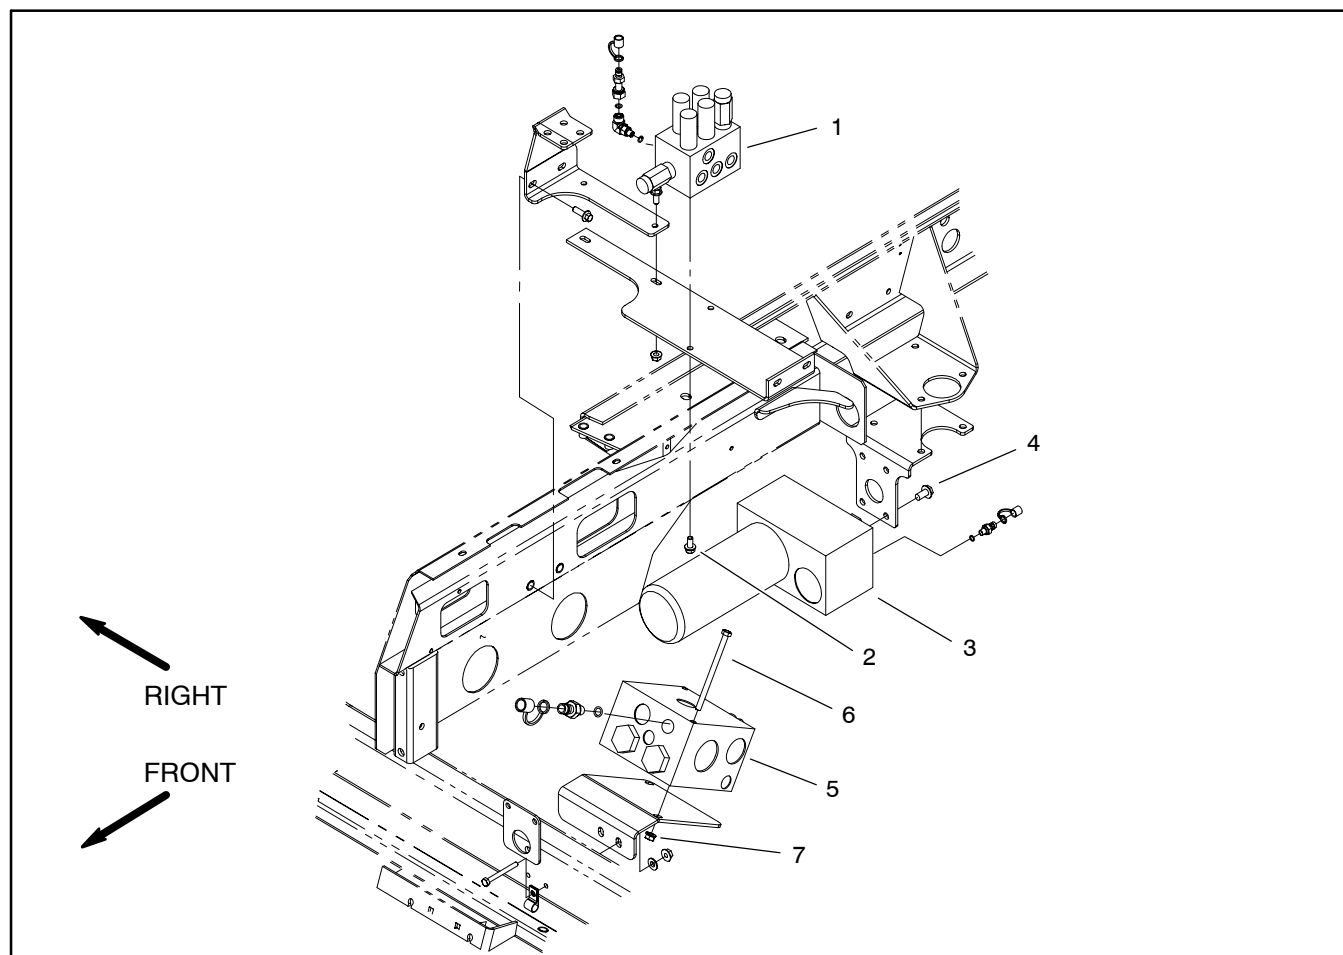

Figure 64
4. Remove hydraulic manifold from the frame using Figure 64 as guide.
1. Install hydraulic manifold to the frame using Figure 64 as guide.